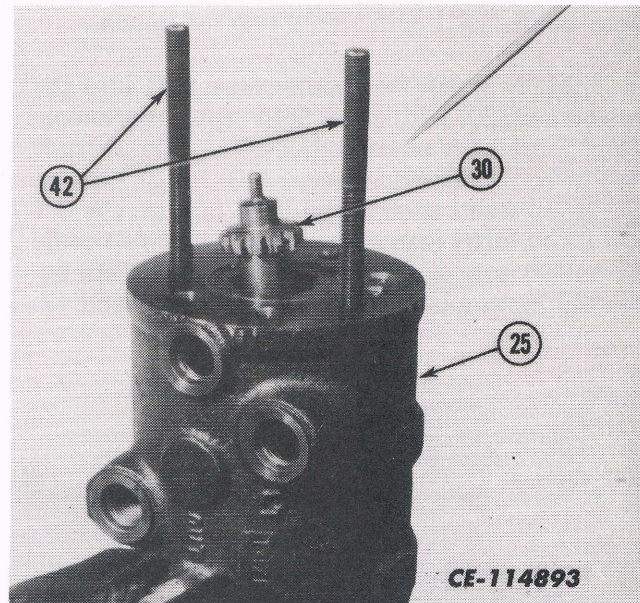

Fig. 20
17. With the drive link (30) installed as described above, assemble two assembly posts (42) into the housing (25) as shown in Fig. 20. These assembly posts can be made by simply cutting the heads off of two bolts similar to the special bolts (39). See Figs. 5 and 20.